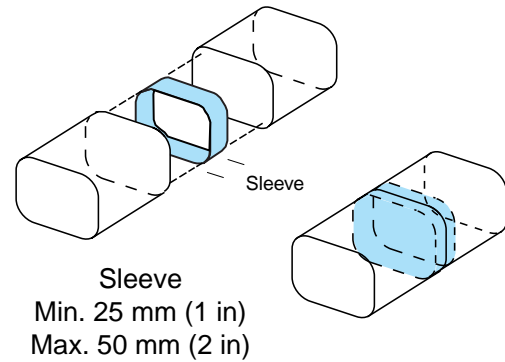

Fig. 4.20 — Sleeved Butt-Joint
- 2 From unused portion of service part; measure, mark, and cut 25 to 50mm of rail to be used as a sleeve (backing plate), at the sectioning joint (Fig. 4.20).